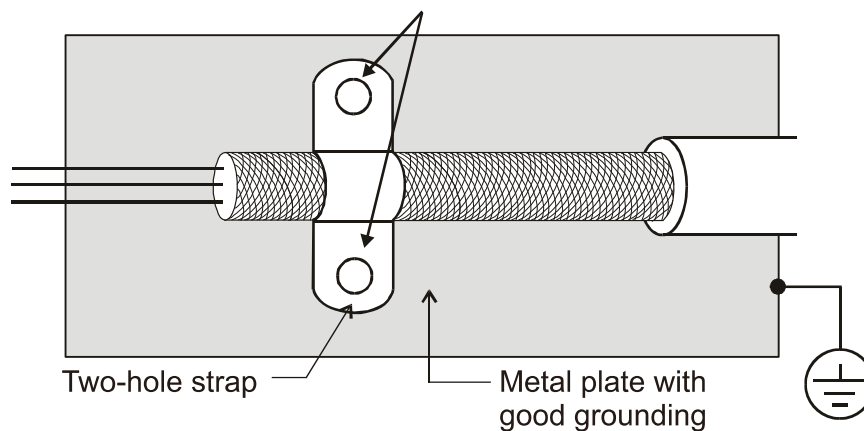

Figure 7-76
2. Remove the protective painting where the metal plate fixes with the two-hole straps. This is for ensuring a good contact. See Figure 7-76.